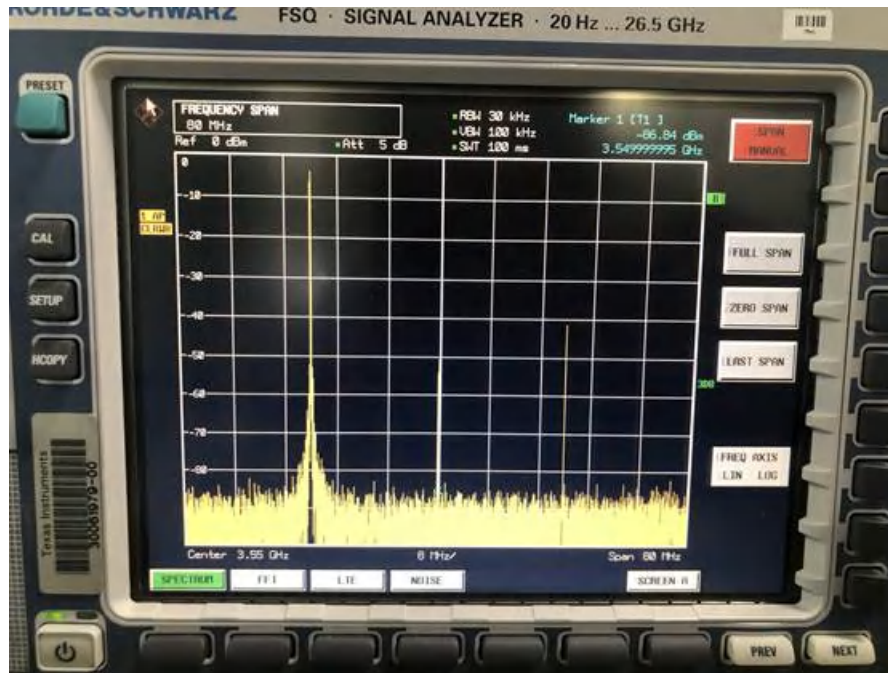

Figure 2-12. Spectrum analyzer results, 20MHz NCO
4. Figure 2-12 represents the expected result for this test case.